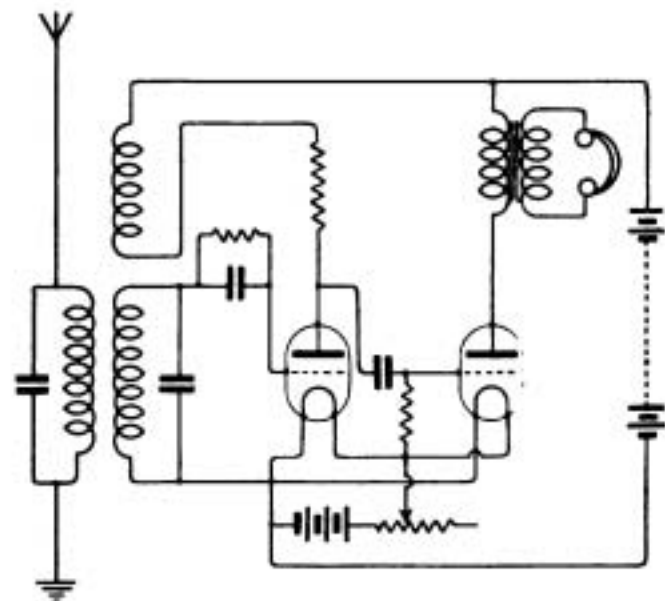

Fig. 4.
(3) This depends on the type of circuit you propose to use. For all round purposes 0.001 mfd. is very useful.
(4) See Fig. 4, page 218, June 25th issue.
J.F.B. (Bedford Park)—(1) and (2) In grid condenser working, the operating point must always be high on the characteristic, a signal producing a fall in the plate current. For reasons we have no space to enter into, too much positive volts on the grid may considerably spoil results, and only experiment in each case can determine which of the connections you suggest will be the better. There is no difference in H.T. battery efficiency.
J.A.M. (Cape Town).—(1) The apparatus suggested will be quite suitable.
(2) Connect as in Fig. 4, page 218, June 25th issue, introducing the telephone transformer in the usual way.
(3) None.
(4) Such a set is not possible. For satisfactory frame aerial work at least three valves are necessary.
E.J. (Farnborough).—(1) We are afraid that instructions for making a combined transmitter and receiver, even of simple type, are out of the scope of these columns, particularly as you appear to have no knowledge of the subject.
(2) Desirable for long wavelengths, but must be kept small, e.g., not greater than 0.0004 mfd.
(3) Grid leak 5 megohms, grid condenser 0.0001 mfd., condenser 0.0005 mfd., telephones 4,000 ohms.
(4) For a H.F. amplifier, the more efficient of the two, see Fig. 4.